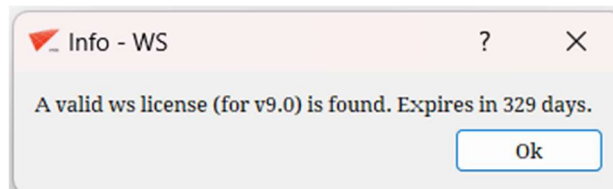

Figure 2.11: License expiry status
**Check License** option displays the license information. If a valid license file exists in the \$GRIDPRO/lc\_mngr directory, a message pops out, as shown in Figure 2.11.